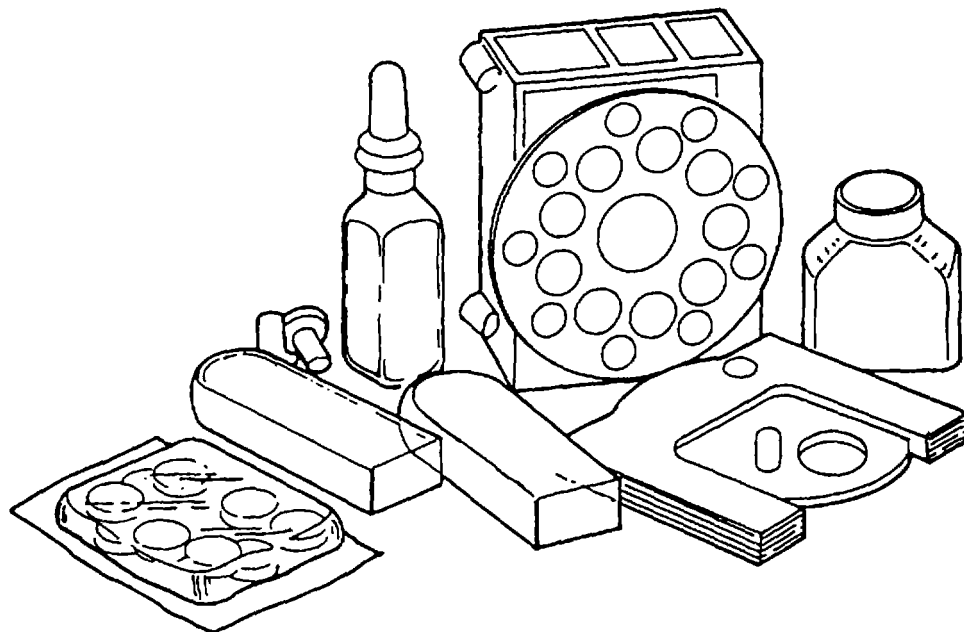

Figure 1-5. Color Comparator Kit
- (6) **COLOR COMPARATOR KIT (Figure 1-5).** Used to measure chlorine content and pH value of distributed water.